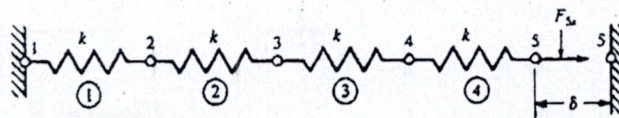

Fig. 3.1
3. (a) Obtain the displacement at node 2 and F_{5x} for Fig. 3.1. At node 5, the known displacement (δ) is 20 mm, and the spring constant is = 200 KN/m 7